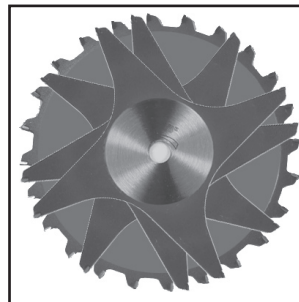

FIG. 68
1. The blades and chippers (DELTA 35-7670 is used in this example) are heavily swaged and must be arranged so that the teeth do not hit each other during rotation. The heavy portion of the chippers should fall in the gullets of the outside blades (Fig. 68).